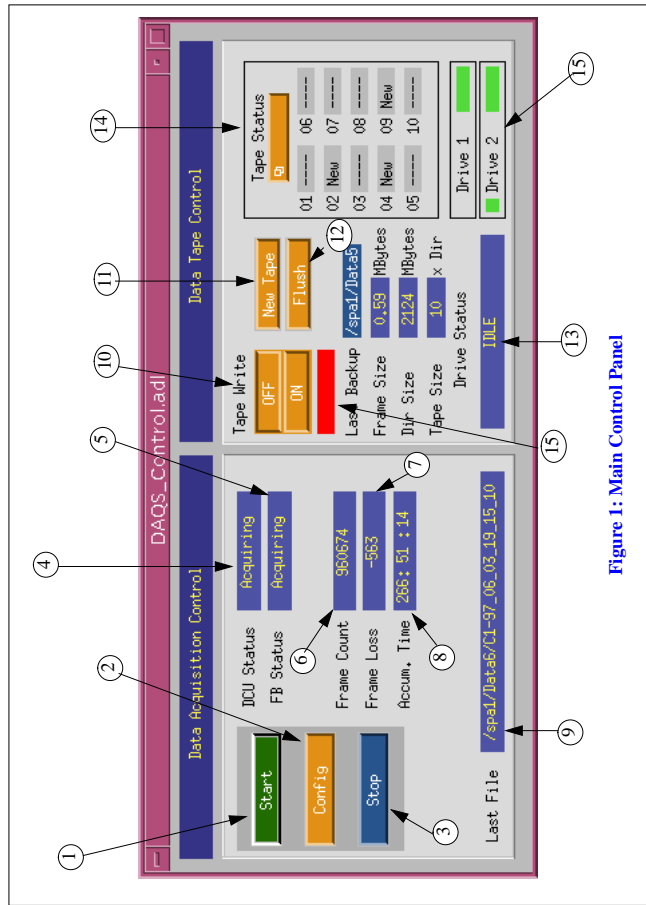

Figure 1: Main Control Panel
The right hand side of the DAQS control panel of figure 1 provides the user interface to control the tape system. To start data taking to tape:
2. Verify the tape status. Item 14 and 15 of Figure 1 show the tape and tape drive status. While this is normally updated automatically by the DAQS software, this info is presently lost if the DAQS is rebooted or tapes are manually inserted or removed from the robot. Within the Tape Status box are shown 10 blocks which correspond to the 10 tape slots within the robot. Look through the glass front panel and ensure that there are tapes in the slots indicated. Within the robot, slots are numbered from bottom to top. The bottom slot is slot 0 and is not used to hold an acquisition tape. If not, or the user opts to add/remove tapes, see step 4.
3. Verify the drive status. Item 15 of figure 1 shows the two drives. The indicator to the right should indicate green if there is a tape loaded in the drive. This indicator is black if the drive is empty. Sitting atop the SUN Enterprise 2 computer within the DAQS rack to the right of the operator console are two LCD display which indicate drive status. Check these displays and verify that they compare with the drive status indicators on the control screen. There is also a green indicator on the display of Figure 1 to the left of one of the two tape drive symbols. This only indicates which drive the DAQS will/is presently writing data to.
- Verify that the main control screen of Figure 1 now indicates the correct status and close the Tape Config display.
Other features of the tape control panel, numbered in correspondence with the numbers indicated in Figure 1 are:
Once the power is restored, it will take approximately 45 seconds for the system to reboot. The fields of the main control panel of Figure 1 will all be white blanks during this period until the system is back up, at which times the data fields will again become active.
If the main control panel of Figure 1 is not visible or iconized on the center screen of the DAQS console, it needs to be restarted. At this point, it is best to close all terminal windows on the center screen and then start one new terminal window. In this new window:
The display of Figure 1 should now appear on the screen and all data fields filled.
1. If, and only if, it is desired to remove all data presently on the DAQS disk drive, click on the FLUSH button (item 12 of Figure 1: Main Control Panel). **Note that this is a non-reversible process. Once started, the data contained on the disk drives will ALL be deleted.** This is usually desirable only if the DAQS has not been running for some time and the data is no longer of interest.
2. Click on the “Config” button (item 2). This configures the DAQS for operation. A message will appear in field 9 that the system is being configured. This will take ~20-30 seconds, after which the “FB Status” will indicate “IDLE”.